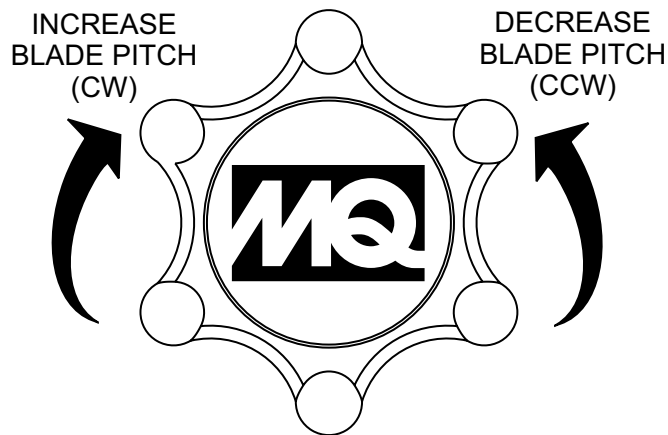

Figure 9. Adjusting Cable Blade Pitch (Edger-Standard Handle)
2. Remove brass set nuts #1 and #2 from the blade pitch cable end as shown in (Figure 9).
Refer to Figure 9 for the location of components.